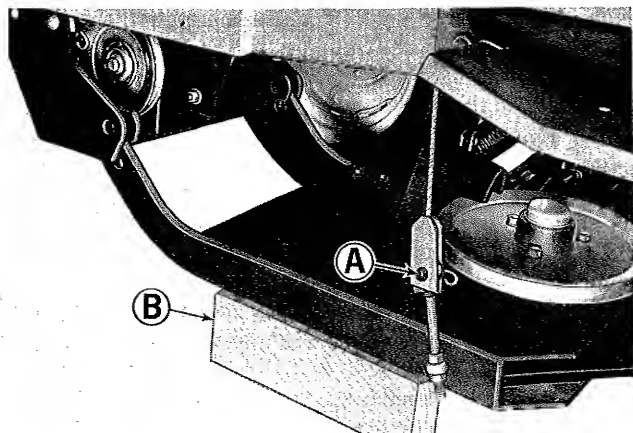
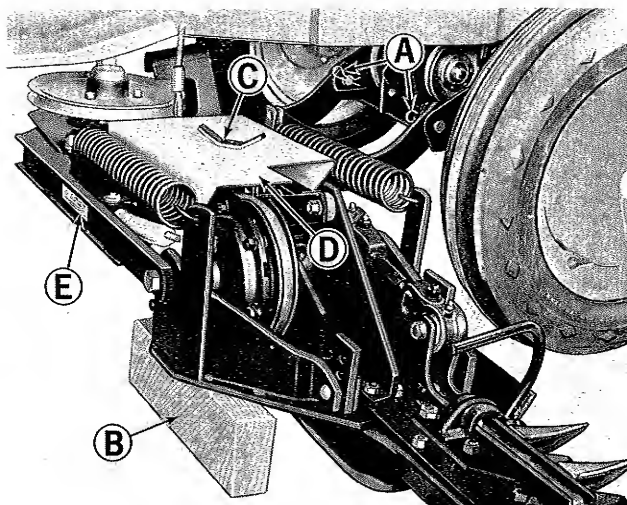
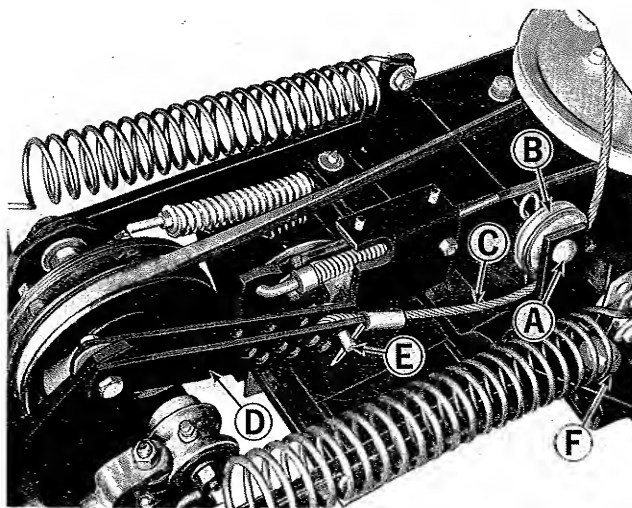

Figure 6. The left lift cable attached to the mower.
Figure 7. Mower mounted to hitch assembly.
Figure 8. Right lift cable attached to mower.
When ordering replacement parts for the mower, be prepared to give your Simplicity dealer the identification number found on the identification plate shown below. It is located on the frame assembly of the mower (Figure 7, Item E). We suggest that you locate the number and record it below for easy reference.
5. See figure 6. The lift cable should be fully extended as shown in figure 6. If it is not extended as shown, start the engine and move the hydraulic control lever forward to lower the cable fully. **CAUTION: DO NOT OPERATE THE TRACTOR ENGINE UNLESS YOU ARE IN THE OPERATOR'S POSITION ON THE TRACTOR AND SHUT IT OFF BEFORE LEAVING THE TRACTOR SEAT.** Raise the left end of the mower slightly, and attach the left lift cable at (A) as shown using the pin and spring clip furnished with the sickle bar mower. This can be done most easily by placing
6. See figure 7. Start the tractor engine and use the hydraulic lift lever to raise the mower so its mounting holes line up with the holes in the hitch assembly. Use two pins and spring clips at (A) to mount the mower to the hitch assembly.
7. Use the tractor hydraulic lift lever to raise the tractor lift to its highest position. Remove the block (Figure 6, Item B) from the left side of the mower and place it under the sickle bar as shown at (B) in figure 7. Lower the tractor lift system completely.
8. See figure 7. Remove wing nut (C) and cover (D) from the mower.
9. See figure 8. Remove the spring clip and pin (A) and pulley (B) from the mounting bracket. Place the right lift cable (C) under the pulley and install the pulley in place using the pin and spring clip. Extend cable (C) all the way and fasten it to the lift arms (D) using a pin and spring clip (E). The pin should be placed in the hole as far from pulley (B) as possible, so the cable is snug when the sickle bar is level. To prevent it from catching on the mower frame, pin (E) must be installed as shown with the head end toward the rear of the
10. See figure 7. Replace cover (D) and hand tighten wing nut (C) securely.
6. See figure 7. Use the tractor hydraulic lift lever to raise the mower. Place a block (B) under the sickle bar as shown. Place the hydraulic lift lever in the **FLOAT** position.
7. See figure 7. Remove wing nut (C) and cover (D) from the mower.
8. See figure 8. Remove the spring clip and pin at (E) and the spring clip and pin at (A) to disconnect the right lift cable from the mower. Replace the pins and spring clips in their appropriate holes and replace the cover and wing nut. (Figure 7, Items C and D).
9. Raise the tractor lift completely and remove the block (Figure 7, Item B) from under the sickle bar.
10. Using the hydraulic lift control lever, lower the mower gradually until the pins (Figure 7, Item A) are free and then remove them.
11. See figure 6. Place block (B) under the mower, then push the tractor hydraulic control lever to the **FLOAT** position. Remove the spring clip and pin at (A) to disconnect the left lift cable from the mower.